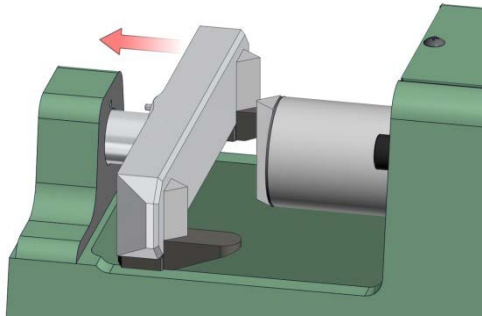

Figure 5.4.2
1. Install the two Transverse Strength Accessory components by first, aligning each of the pins located on the back side of the components with the holes located on the Base and Hydraulic Piston of the Universal Strength Machine. Then, gently slide the Test Support Clamp (Item 1, Figure 5.4.1) and Pressure Wedge (Item 4, Figure 5.4.1) onto the Base and Hydraulic Piston, respectively. See Figure 5.4.2 for installation procedure.